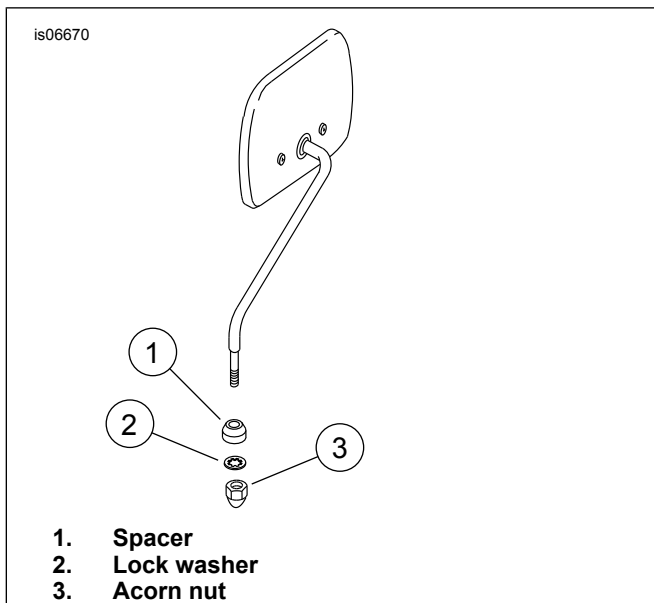

Figure 3. Mirror Hardware
2. Separate the upper (3) and lower switch housings per service manual instructions.
3. Remove the grommet from the end of the turn signal wire vinyl conduit (4) still connected to the switch housing.
5. Slip the two-inch (50.8 mm) long section of encapsulating (dual wall) shrink tube (5) over the conduit and wires.
8. See Figure 3. Install the mirrors using lockwashers and spacers on the mirror shaft and secure with an acorn nuts from the kit. If the acorn nut bottoms out without tightening, remove the acorn nut, add a spacer from the kit and install acorn nut and tighten.